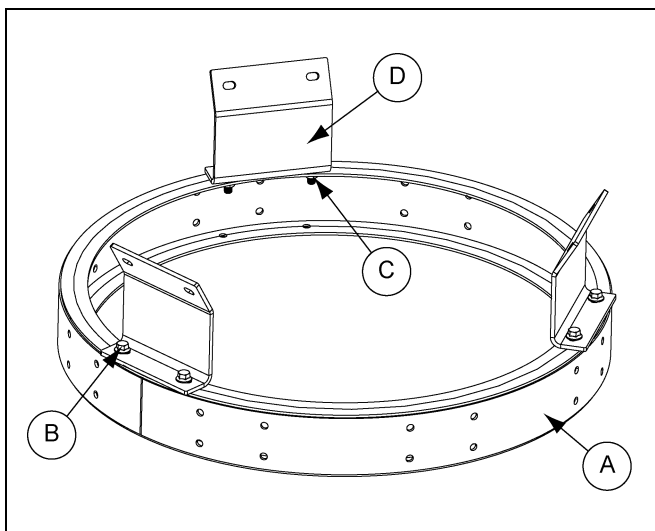

Figure 4G Assembling the Z-Collar Support Clips
1. Position the Z-collar center collar support clips (D) on to the peak ring weldment as shown in Figure 4G.
2. Install the flange bolts (B) and flange nuts (C), securing the Z-collar support clips (D) to peak ring weldment (A).